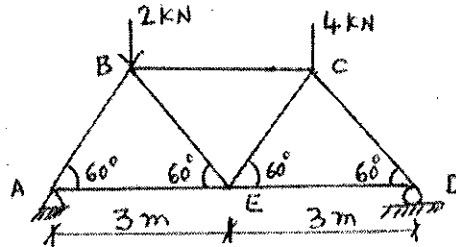

Fig.Q.1(c).
c. Find the forces in all members of the Pin jointed truss shown in Fig.Q.1(c) by using method of joints. (12 Marks)